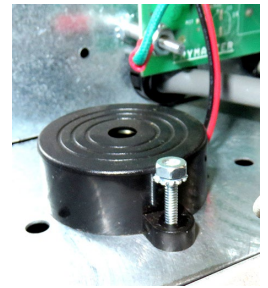

Figure 2
5. Disconnect the sound device from the interface board and carefully remove the screw and nut attaching the sound device (see Figure 2). Set aside the sound device, nut and screw to use later.